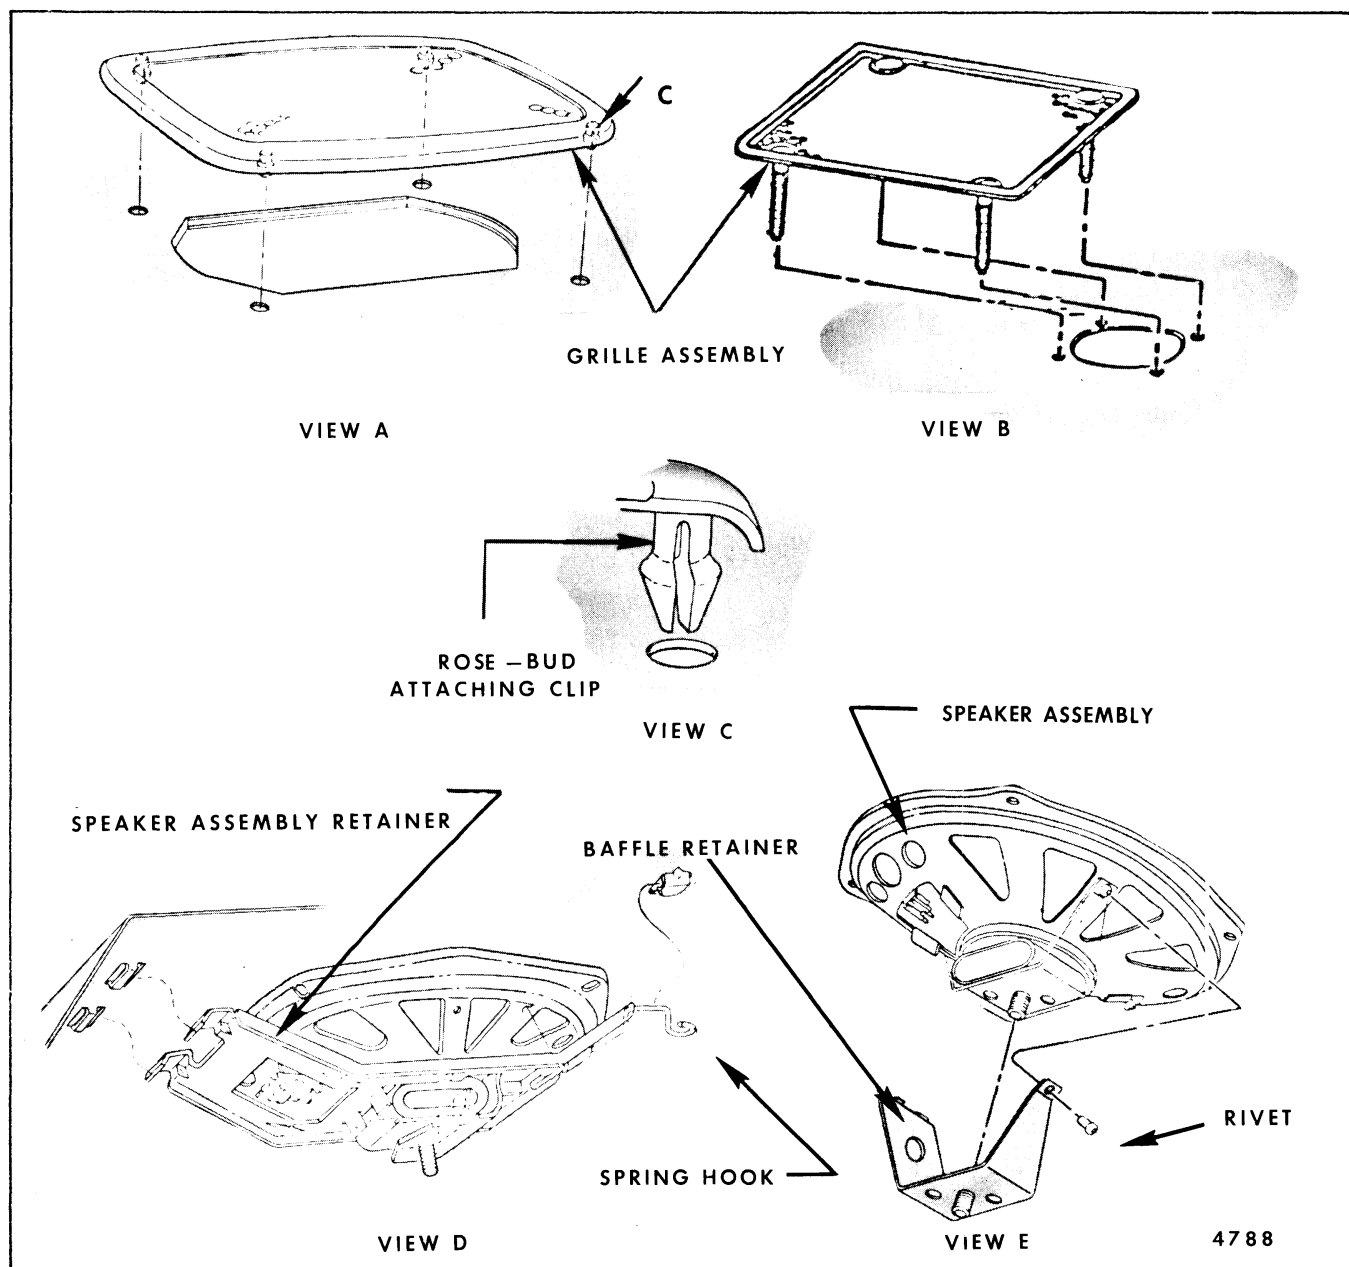
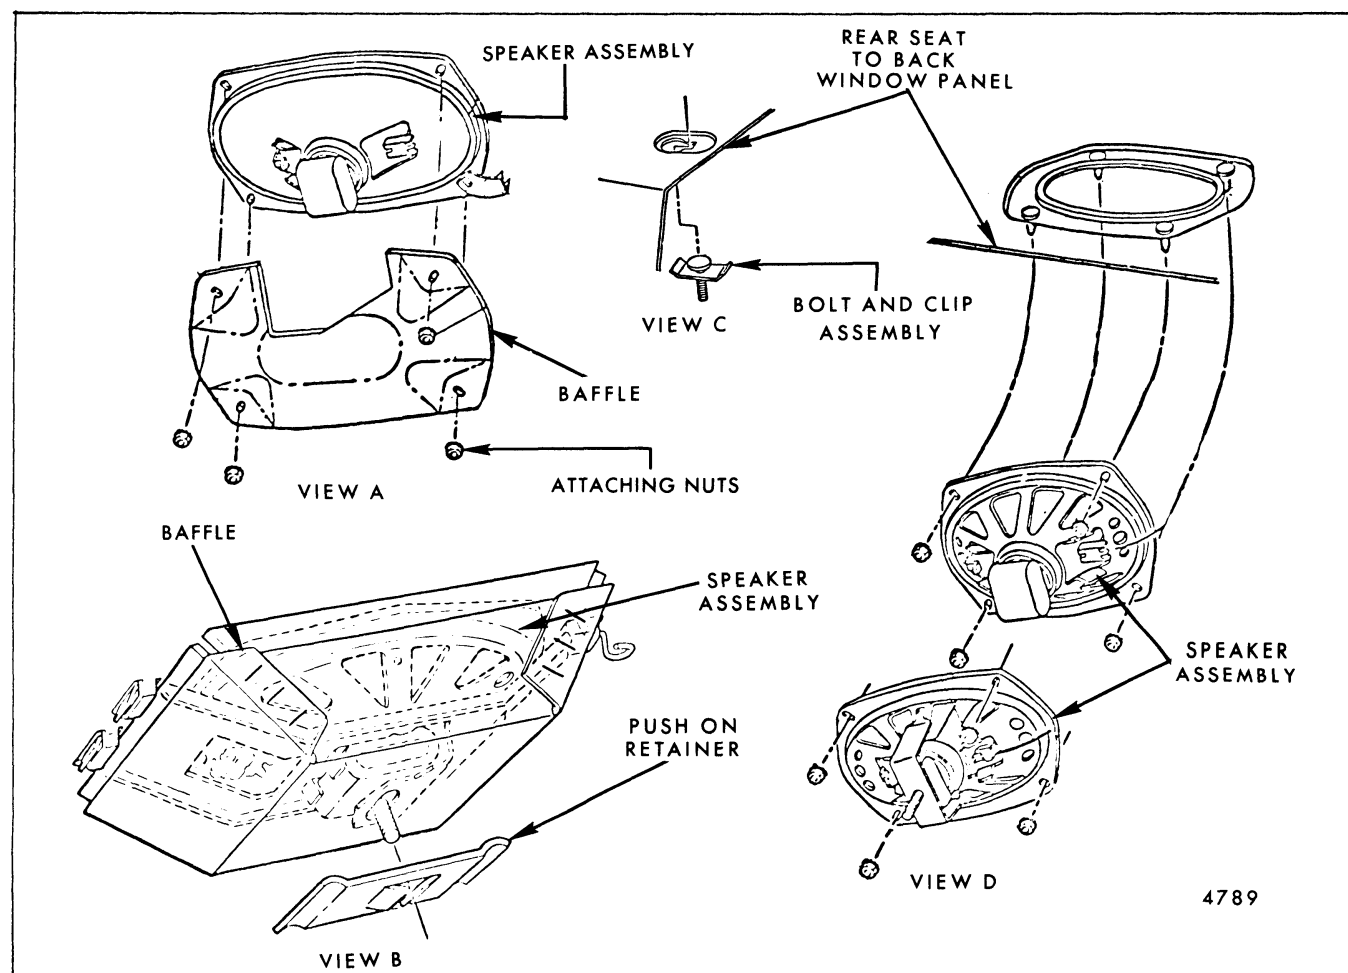

Fig. 9-61-Grille and Speaker Attachment
Fig. 9-62-Baffle and Speaker Attachment
If a non-perforated painted panel is used the speaker is attached to a speaker grille assembly or retained by a one piece metal retainer (see Fig. 9-61, Views "B" and "D").
If a perforated vinyl coated panel is used the speaker is retained with either a metal retainer Figure 9-61, View "D" or a bolt and clip assembly Figure 9-62, View "C".
1. If speaker baffle (cover) is installed to speaker assembly, detach baffle by removing push on retainer or attaching nuts (see Fig. 9-62, View "A" and "B").
**NOTE:** If replacing speaker remove baffle retainer as shown in Figure 9-61, View "D" and "E".
3. If not previously removed with baffle, remove four (4) attaching nuts to separate speaker assembly from grille and lift grille assembly upward to complete removal (see Fig. 9-62).
4. On styles using metal retainer assembly to secure speaker to rear seat to back window panel Figure 9-61, View "D". Disengage spring hook from tab at rear of panel and swing speaker assembly downward to remove.